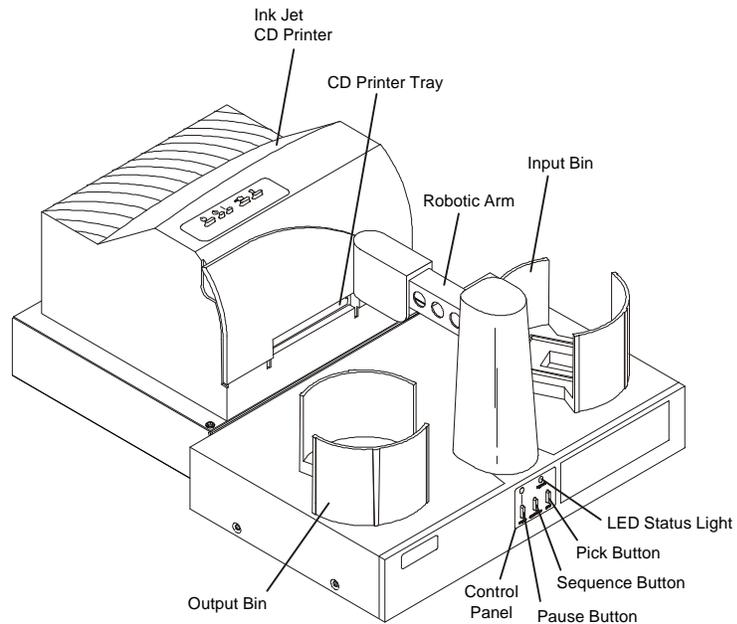
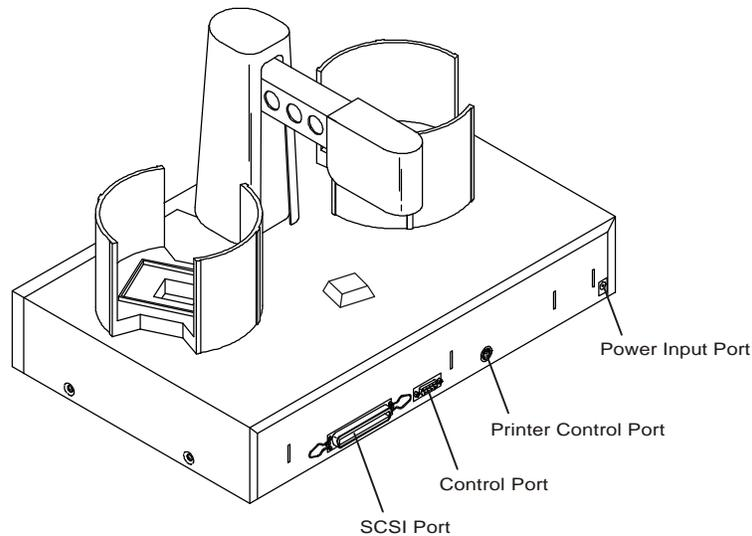

Figure 1: Conductor and Signature III CD Color Printer
Figure 3: Rear Panel of Conductor
Illustrated in Figures 1 and 2 are two Conductors: the first with a Signature III CD Color Printer attached and the other with an Inscripta Thermal CD Printer attached. Look over all items identified to make sure that you are familiar with each. Figure 3 shows the rear panel of Conductor.
1. In the Conductor shipping box you will find the Input and Output Bins. Place the Bins in their correct places as shown in Figure 1. Depending upon which printer you are using, you'll see that the locations for the Bins changes. Upon power-up, Conductor will automatically detect which printer is being used by where you place the Bins.